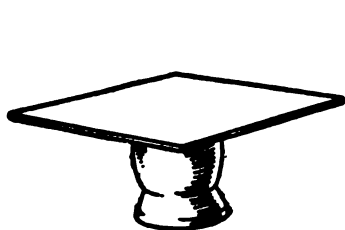

FIG. 323. — Square Center-Table.
**The Square Center-Table** (Fig. 323) has a crochet-cotton spool pedestal, and its top is a square piece of cardboard. Glue the spool to the exact center of the top.